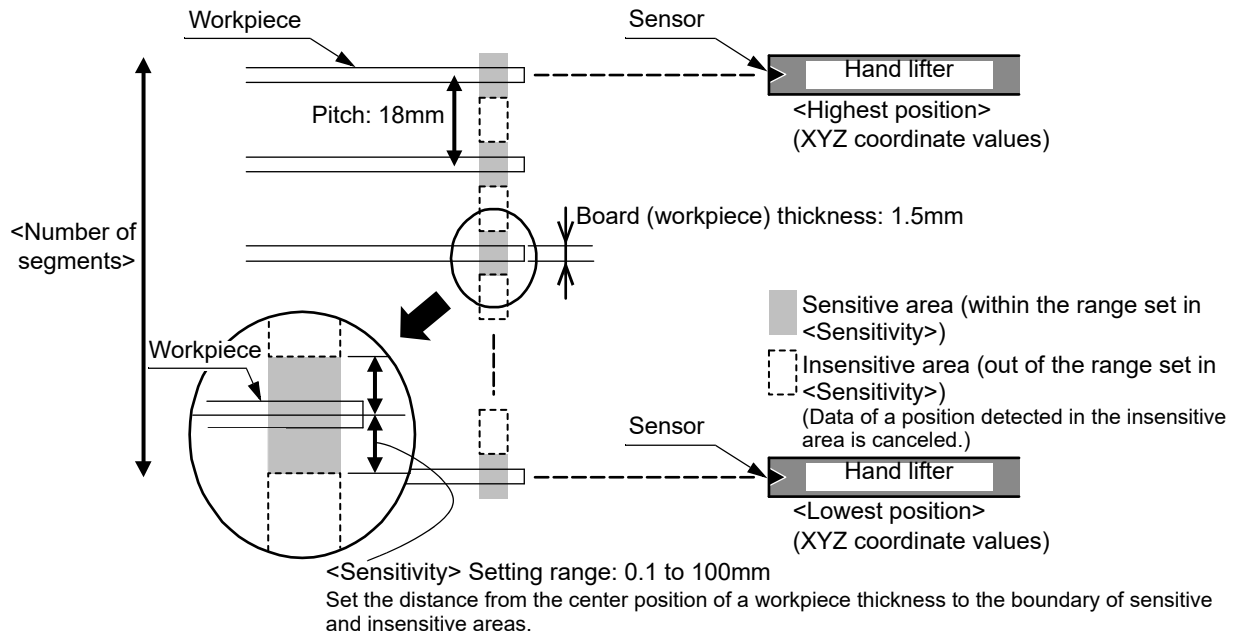

Fig.4-23: Sensitive area of a sensor
- <Sensitivity> Set the sensitive area of a sensor for improvements in accuracy to detect the presence of a workpiece. (Refer to Fig. 4-23.)